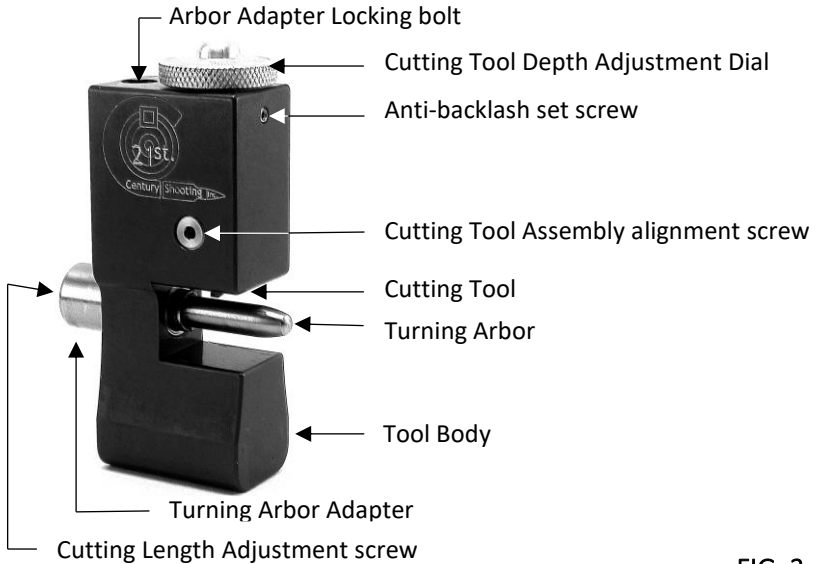

FIG. 3
1. Loosen the set Cutting Tool Assembly alignment screw and the anti-backlash set screw (FIG. 3)